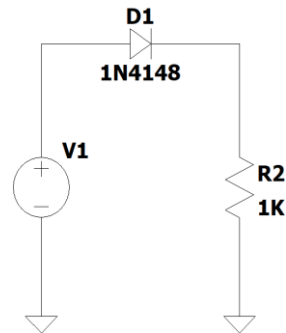

Figure 2.2 Reverse Recovery Time
1. Connect the Circuit as shown in Figure 2.2.